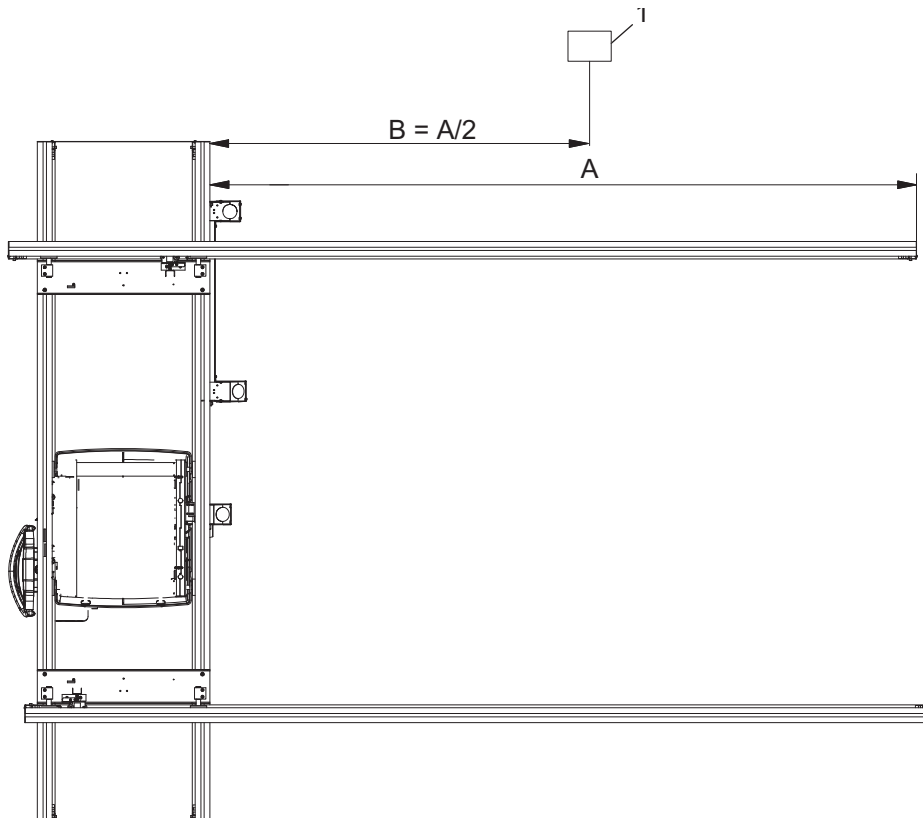

Figure 6-4 Placing of wall attachment cable hose (1), Ceiling suspended unit.
The wall attachment of the Ceiling suspended unit is designed to be placed on the wall. The placement of the wall attachment is critical due to the optimized length of the cables. The wall attachment shall be placed as high as possible from the floor and on the distance (B) according to *Figure 6-4*